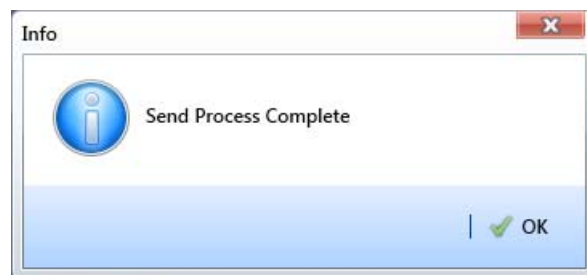

Figure 13-14. Send Process Complete
- 20 When a message displays confirming the send process is complete, click  **OK** to close the message (Figure 13-14). If you selected to send the survey file to the Allegro, PCS Axis sends the survey file to the *PSData* folder on the Allegro.